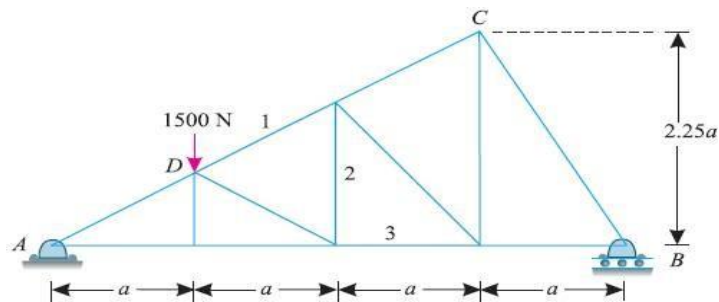

fig.29
3. A plane is loaded & supported as shown in fig.29. Determine the nature and magnitude of the forces in the members 1,2 and 3.